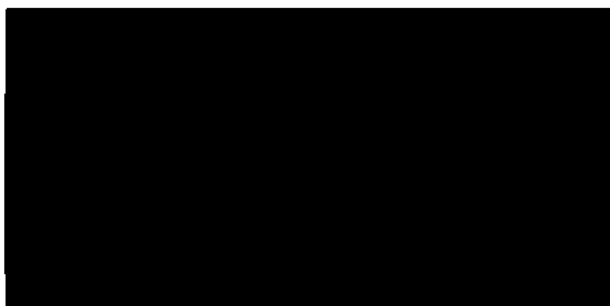

Figure 32. Network Settings
1. Navigate to the NETWORK icon on the SYSTEM CONFIGURATION MENU screen. Press Select to open the NETWORK SETTINGS screen (Figure 32).